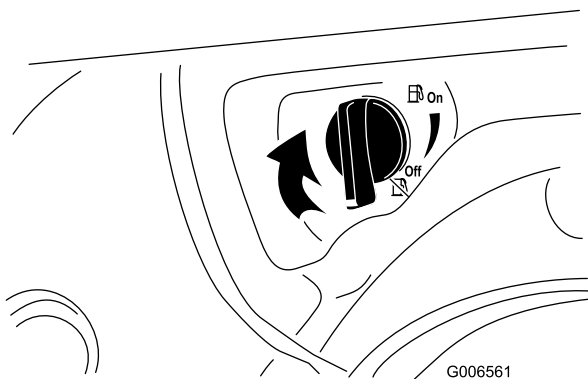

Figure 31
4. Close the fuel shutoff valve by rotating it clockwise (Figure 31).